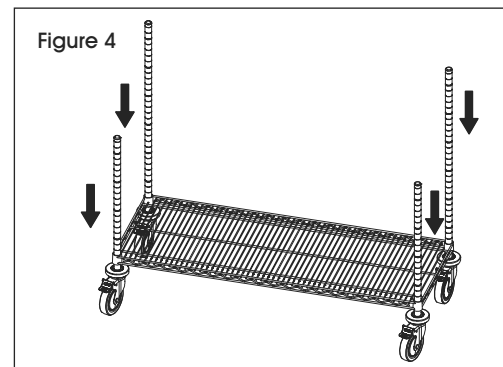

Figure 4
4. Ensure longer posts are in back and shorter posts are in front. Slide posts through underside of flat shelf until shelf slides firmly over supports. (See Figure 4)